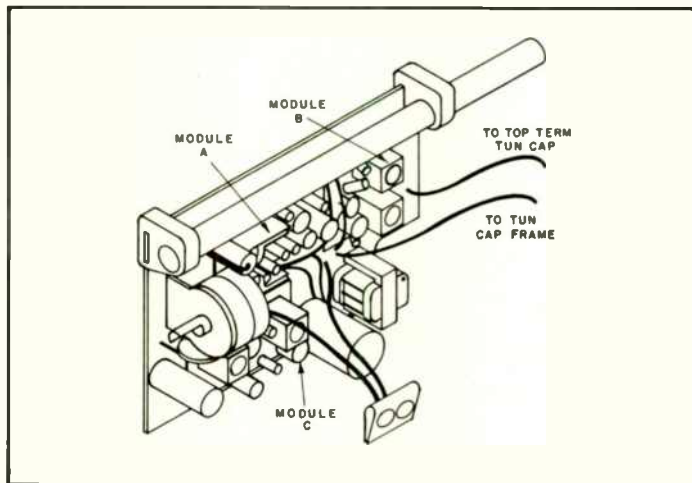
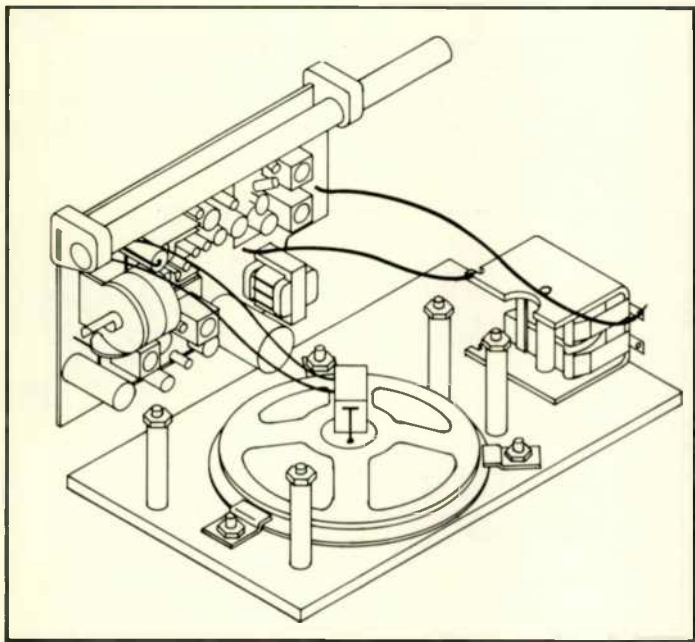

FIG. NO. 5
FIG. NO. 6
- () 8. Insert the 3 modules in the large circuit board as shown in *Fig. No. 5* and solder the leads to the copper pattern.
- () 9. Insert the volume control as shown in *Fig. No. 5* and solder. (Make sure that volume control is seated firmly and square).
- () 10. Insert the transformer as shown in *Fig. No. 5* and solder. (Make sure that the dot on the transformer is in the same position as indicated on the circuit board).
- () 11. Insert capacitor C1 as shown in *Fig. No. 5* and solder, (Make sure that the lead marked (+) on the capacitor is in the hole marked (+) on the circuit board).
- () 12. Insert capacitor C4 as shown in *Fig. No. 5* and solder.
- () 13. Insert capacitor C2 as shown in *Fig. No. 5* and solder. (Make sure that the lead marked plus (+) on the capacitor is in the hole marked (+) on the circuit board).
- () 14. Insert capacitor C3 as shown in *Fig. No. 5* and solder. (Make sure that the lead marked plus (+) on the capacitor is in the hole marked (+) on the circuit board).
- () 21. Mount the antenna to the circuit board as shown in *Fig. No. 5*.
- () 22. Use caution when handling the fine antenna wires. Solder the double wire in the hole marked (Ant. (2)).
- () 24. Solder the 2 wires from the speaker in the 2 holes marked (Spkr.) as shown in *Fig. No. 6*.
- () 25. Select a 3½" wire. Solder one end to the corner of the tuning capacitor frame and solder the other end in the hole marked (Gang) as shown in *Fig. No. 6*.
- () 26. Select a $3\frac{1}{2}$ " wire. Solder one end to the *top terminal* on the side of the tuning capacitor (furthest from the mounting board) and solder the other end in the hole marked (Osc.) as shown in *Fig. No. 6*.